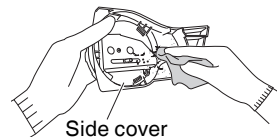

Fig. 37
2. Cleaning the side cover and brake band chamber (Figs. 37, 38)